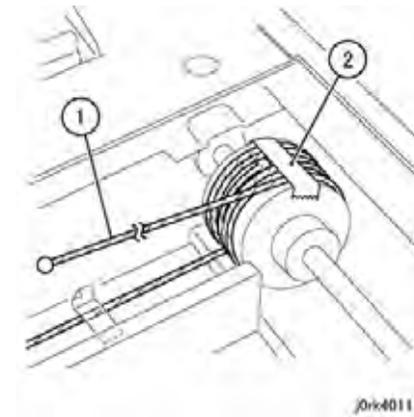

Figure 8 Taping Carriage Cable
3. Wind the Carriage Cable at the ball end around the pulley for 3 rounds (Figure 8)